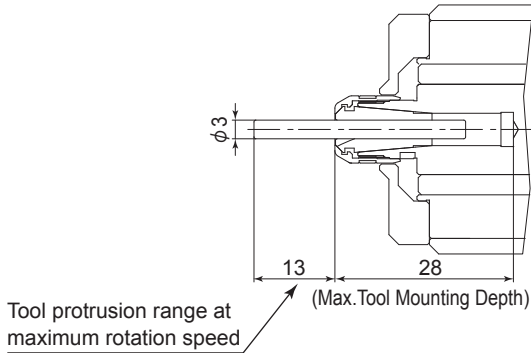

Fig. 24
- (1) The proper surface speed for general grindstones is 10 - 30m / s.
- (2) Do not exceed 13mm of overhang for mounted grindstones as shown in Fig. 24. If the overhang must exceed 13mm, reduce the rotation speed in accordance with Table 2 and Table 3.
- (3) Dress the grindstone prior to use.
- (4) Do not use cutting tools with bent or broken shanks, cracks or excessive run-out.
- (5) For grinding, the maximum depth of cut should not exceed 0.01mm radially or axially. Reciprocate the tool several times after each pass to eliminate tool pressure.
- (6) Always operate cutting tools within the allowable recommended speed of the cutting tools. Use of a cutting tool outside of the allowable speed of the cutting tools could cause damage to the spindle and injury to the operator.
- (7) Keep the cutting tool shank and collet clean. If contaminants are left in the collet or collet nut, excessive run-out will cause damage to the cutting tool and or spindle.
- (8) Do not strike or disassemble the Air Bearing Turbine Spindle.
- (9) Please minimize the tool overhang amount to maintaining high accuracy. 13mm is the maximum amount of overhang to maintain high accuracy and safety.
- (10) Do not apply excessive force as to cause more than a 10% decrease of the rotation speed.
Use this Maximum Rotation Speed Table when exceeding the " Range of Tool Overhang " recommendations (Refer to Fig. 24).
"N" is the maximum rotation speed used in the formula for "Range of Tool Overhang " (Refer to Fig. 24) ($100,000\text{min}^{-1}$) (rpm)).